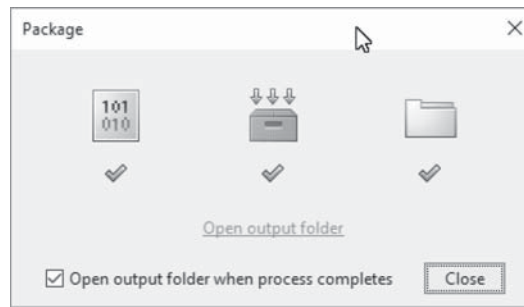

FIGURE 8.16: Creating the executable file to be deployed.
3. Once we have the required m-files, we proceed to build the project. We do this by clicking on the ✓ mark located in the top right corner of the deployment window. When the process starts, the window shown in Figure 8.16 is opened. It is related to the deploying steps and it goes from **Creating the binaries**, to **Packing**, and **Archiving**.